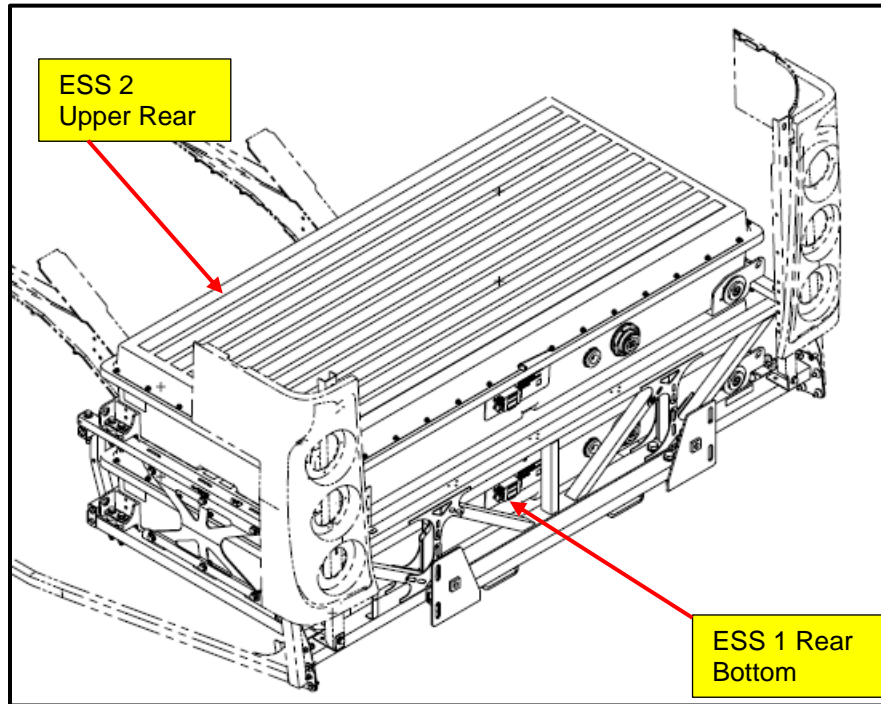

Figure 25: Rear ESS Assembly Serial Number Documentation Location Reference.
72. Locate the serial number plates on the side of each unit being removed and installed and fill out the form and return to the RPSM for warranty and S/N tracking removed and installed units. See Figure 25.